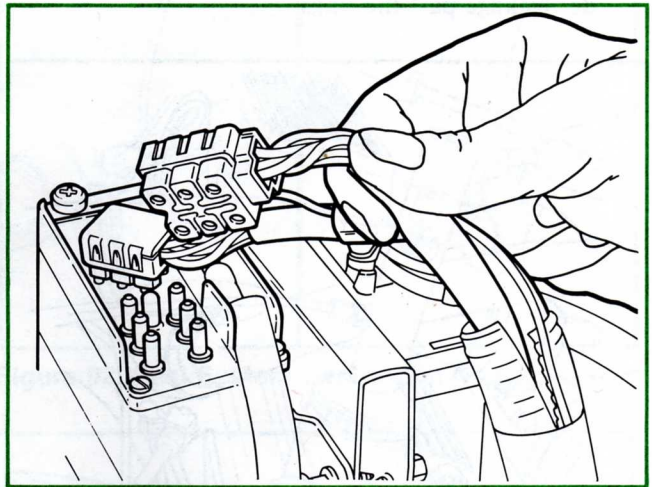

Figure 100. Disconnecting the Glow Plug Module
3. Disconnect the glow-plug circuit at the glow-plug module (Fig. 100) to prevent the glow-plug connectors from shorting to ground when the engine is cranked.